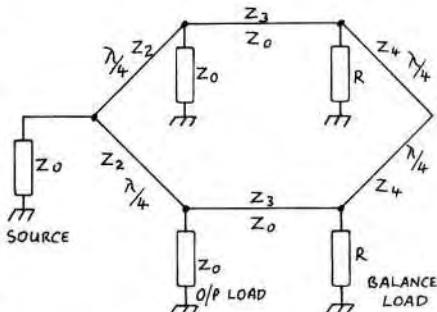

Fig.2 High power N-way combiner/divider.
The second electrode is taken 'high', and the first then taken 'low' to move the signal charge with negligible loss or added noise. In practice the electrodes are so arranged that they can be driven sequentially by a 3-phase set of pulses. (Fig 2). The charge is stored under every third electrode, and moved by the externally generated pulse train.
An article in the 'Microwave Journal', January 1979, by Harlan Jones Jr. reviewed an earlier paper by Ulrich Gysel (note 1), describing a simplified design of a high power N-way in-phase power divider/combiner. The writer of the original paper had experienced the problems with the classic Wilkinson unit and had developed an alternative circuit (Fig.2). Many permutations of suitable load resistors and transmission line impedances can be used, but when certain restrictions are placed on the circuit implementation, a simplified design results. It is convenient to use a transmission line of 50-ohms between the source and the splitter (Z_1). The load resistors (R) are conveniently 50-ohms also. When this is the case, Z_2 becomes: